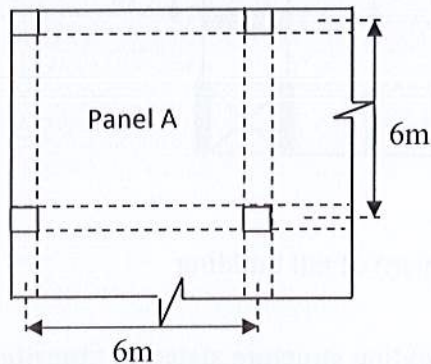

Figure 1. Panel of beam supported slab
- a. The corner slab panel of an office building (live load 2.4 kN/m^2) is shown in **Figure 1**. The floor will be constructed with beam supported slab and it carries 3 kN/m^2 dead load due to random wall and floor finishes. The negative moment coefficient (at continuous support) of the slab is 0.05, thickness is 160 mm. Apply the concept to design the slab for support moment only. Assume required data for design, concrete strength (f_c') could be used as 15 N/mm^2 . [10 Marks]